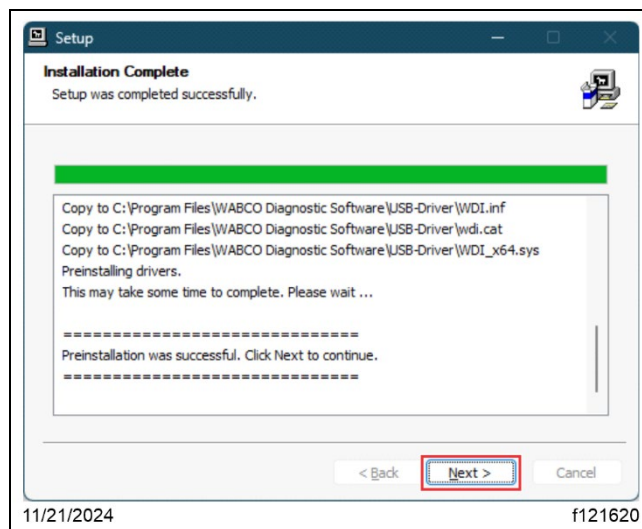

Fig. 42, Installation Complete
7.15. The 'Installation Complete' screen appears once the setup is completed successfully. Select 'Next' to continue. See Fig. 42.